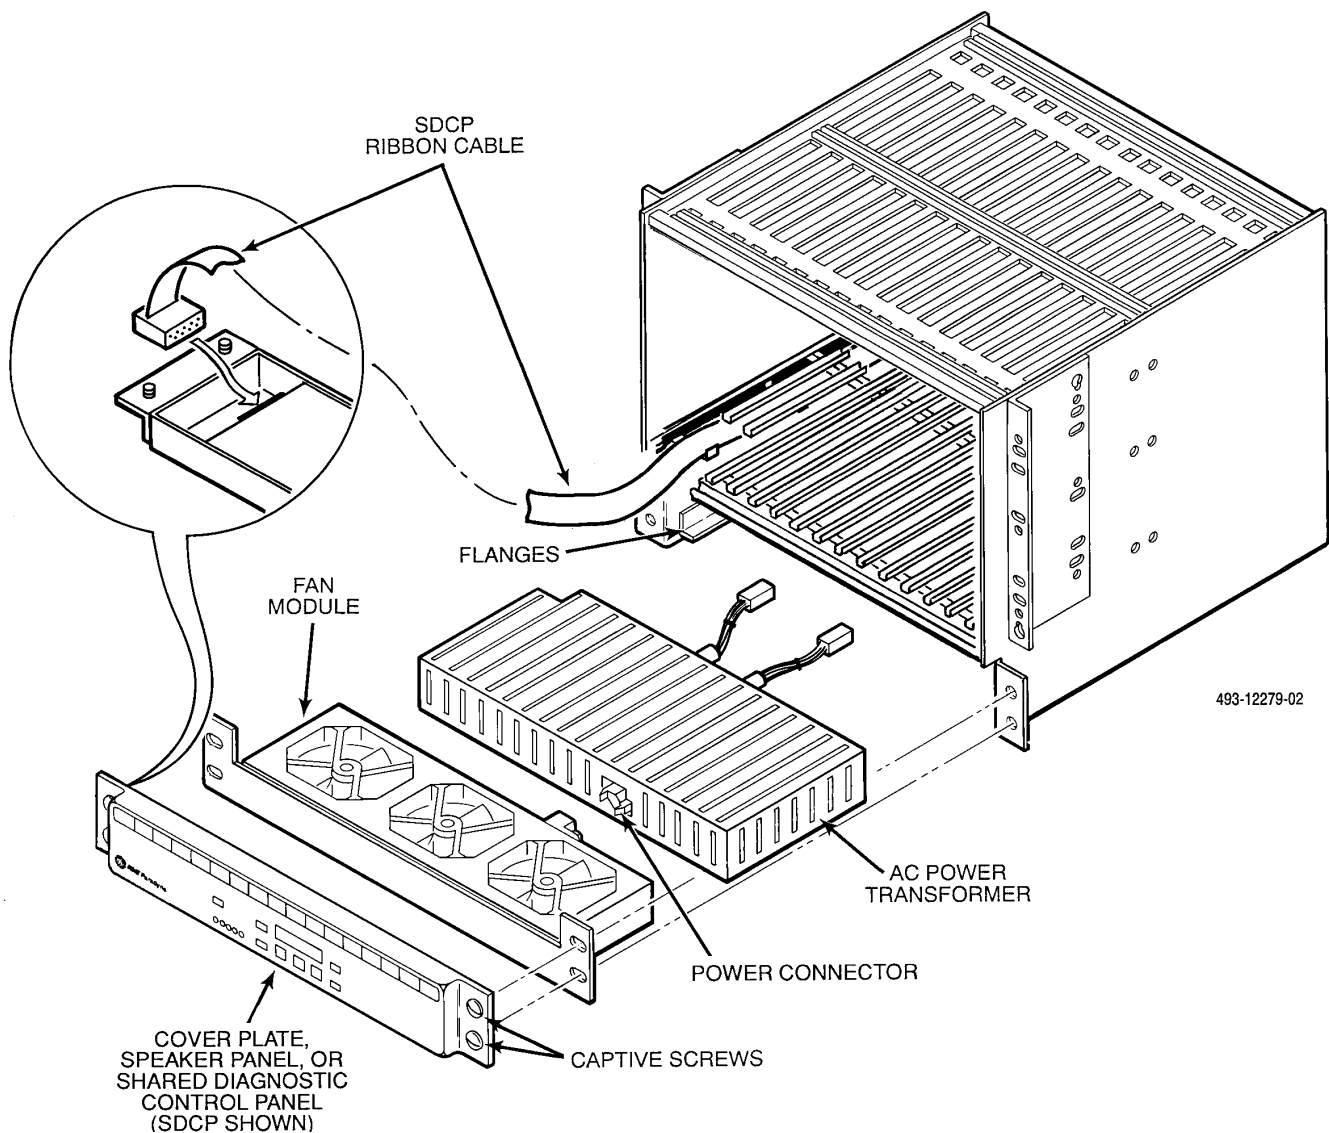

Figure 3-12. Shared Diagnostic Control Panel (SDCP) Installation
The optional SDCP ribbon cable shown in Figure 3-12 is connected to the carrier backplane before the power transformer unit and optional fan module are installed. Refer to the *Power Transformer Unit Installation* section to connect the SDCP ribbon cable to the backplane, then continue with the following installation procedure.
1. Attach the other end of the SDCP ribbon cable to the back of the SDCP, as shown in Figure 3-12.